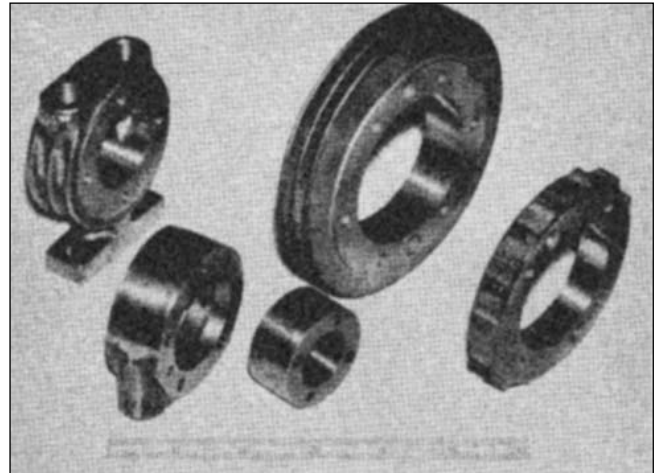

Figure 14, Vane Pump Cylinder
**FIGURE 14:** KKN-100 HONING FIXTURE IS USED FOR HONING VANE PUMP CYLINDERS. Five cylinders with different diameters and lengths, but all with the same requirements - sides must be parallel, bores must have fine surface finish and must be straight and at absolute right angle to end surfaces. The cylinder at lower left is the one shown being honed in Figure 13.